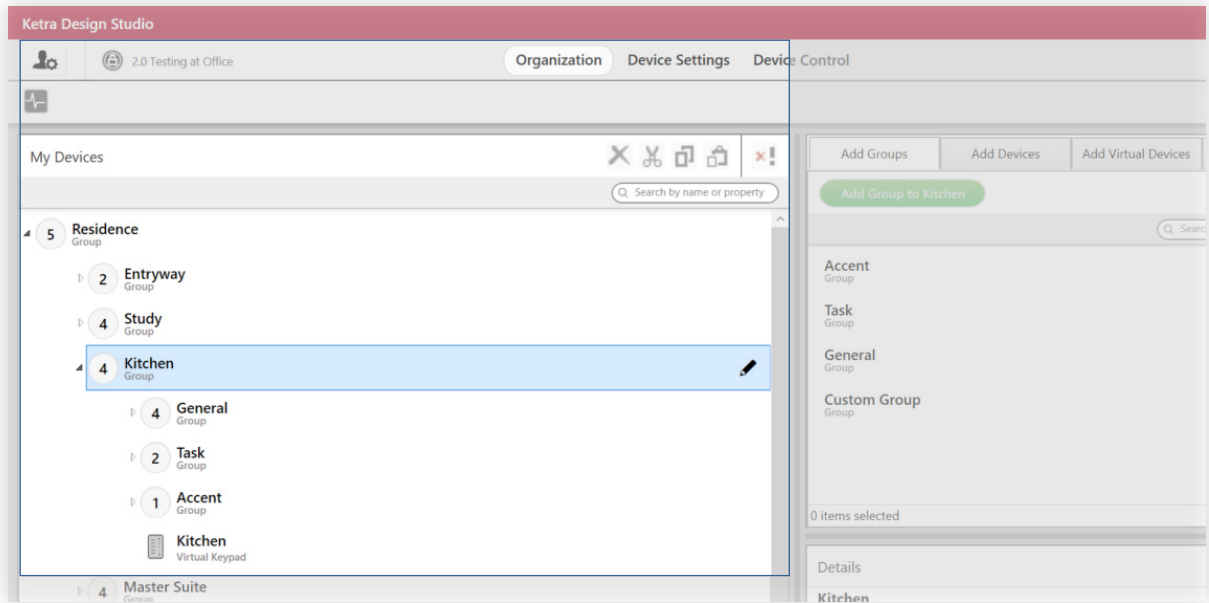

fig. 58
- 1 On the Organization tab, place the keypad in the room-level group. See fig. 58. In our example, the keypad goes in the Kitchen group. It will then be able to control any devices in the General, Task, and Accent groups.